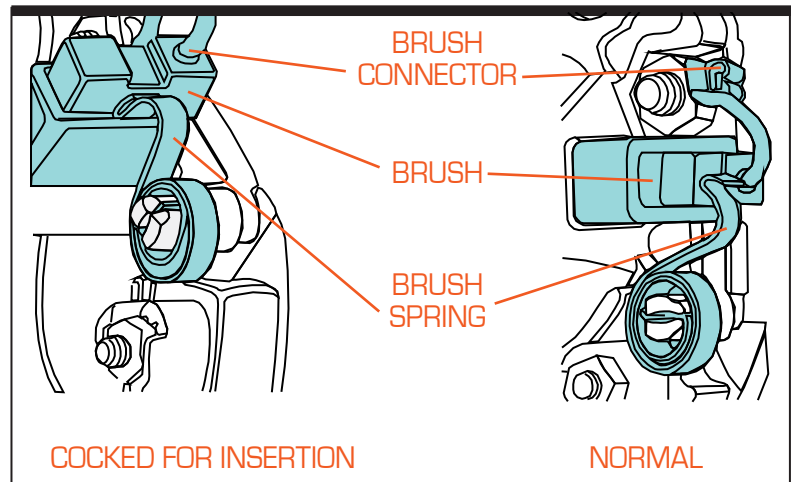

Figure 4-1. DC Motor Brushes with Gasketed Cover Removed
Step 3—Replace Brushes. Lift the brush spring from the end of the brush (see Figure 4-1). Remove the brush connector, withdraw the brush and inspect the length. To prevent motor damage, brushes should be replaced when or before they reach a length of 0.575" (15 mm). New brush length is 1.03" (26 mm). Reverse procedure to replace brush. Replace motor access and feeder covers. Connect power and air. Initial and date the Maintenance Log.